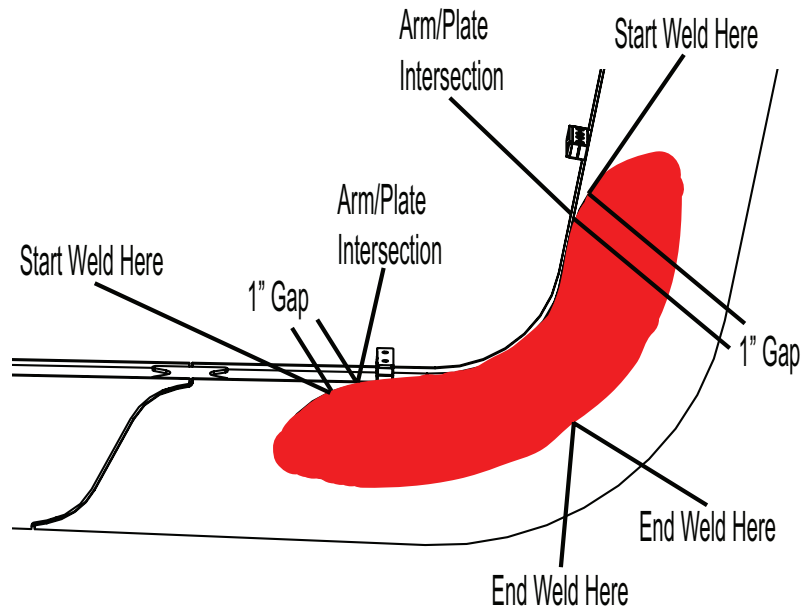

Figure 9
13. Weld the outside facing edge of the doubler plate to the arm (Figure 9). Start the weld at one end of the plate approximately 1" from where the doubler plate and the arm intersect and weld half way around the facing edge. Go to the other end and weld the remaining half. Apply approximately 1/4" welds. (Figure 9). **Do NOT weld all the way to where the doubler plate and the arm intersect.**